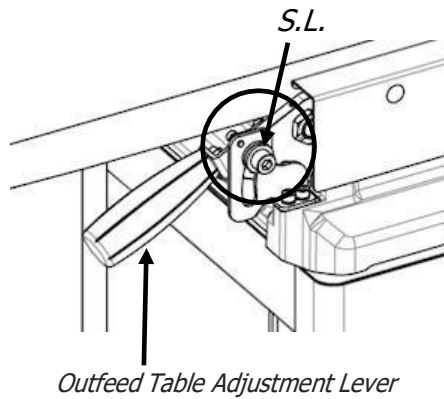

Figure 24: Screw Lock (S.L)
STEP 3: Use a hex wrench (not included) to loosen Screw Lock (S.L.) to release outfeedtable adjustment lever as shown in **FIG. 24**.